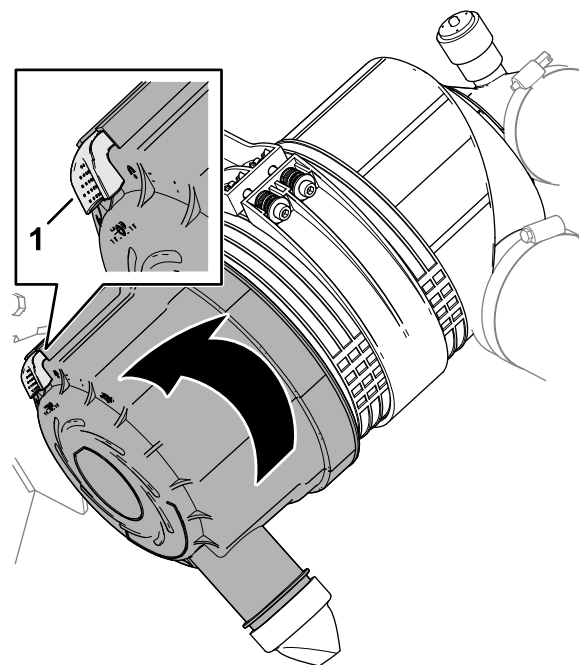

Figure 108
4. Pull the latch outward and rotate the air-cleaner cover counterclockwise (Figure 108).